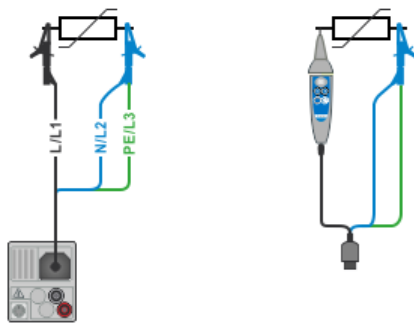
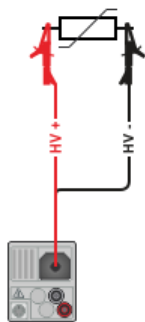

Figure 7.16: Connection of 3-wire test lead ( $U_N \leq 1$  kV)
Figure 7.17: Connection of 2.5 kV test lead (Range: 2500 V)
- › Connect test leads to object under test (see **Figure 7.16** and **Figure 7.17**).